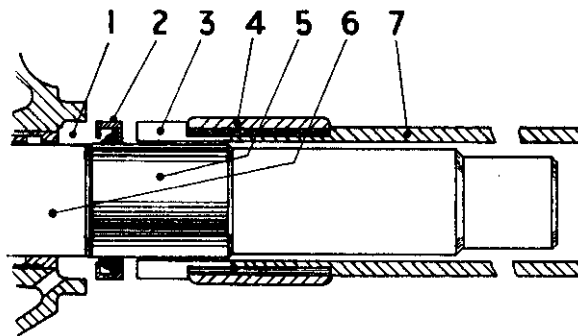

Fig. 13
- (c) Next, with all possible speed, slip the wheel on the raised portion of the shaft and with the ram tool No. 9996 IW. (see figures 13 and 15) drive the wheel on until a clearance of fifteen thousandths (.015") remains between the wheel face and bearing.
- ii. Refer to Fig. 13.